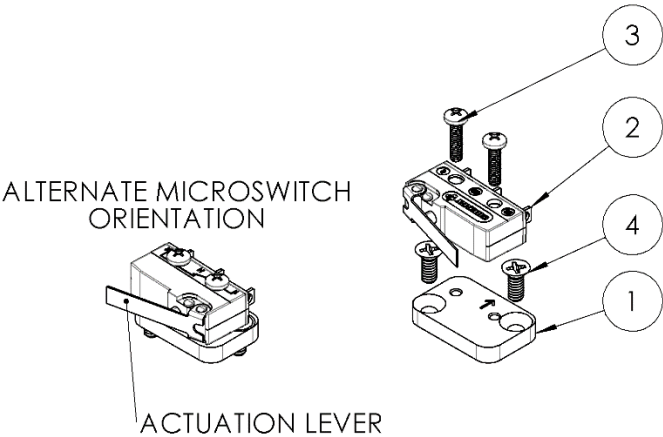
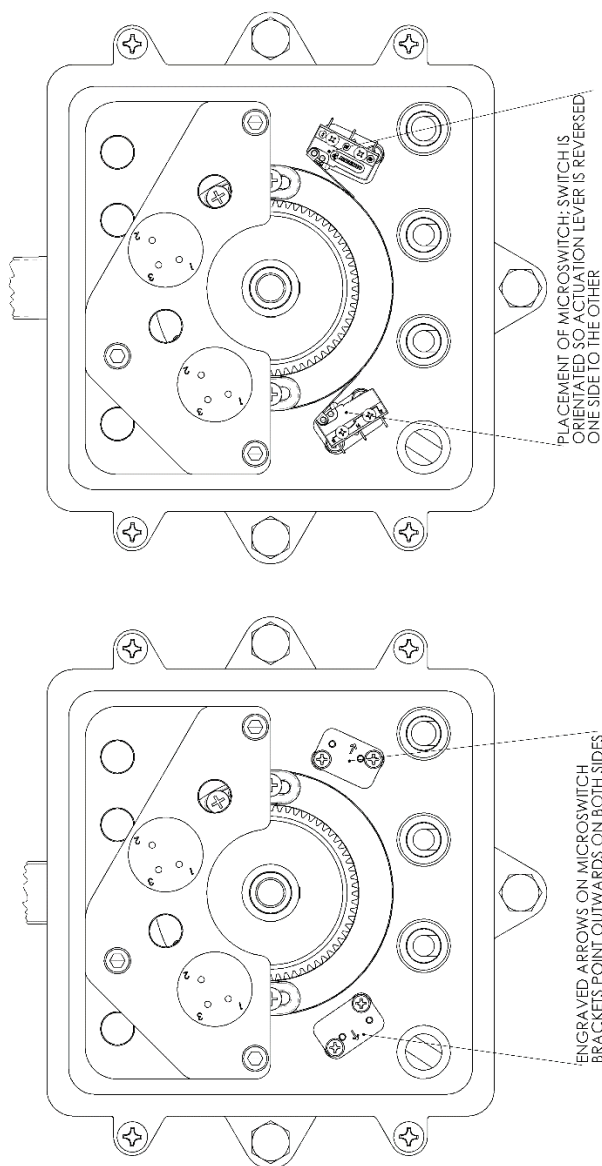
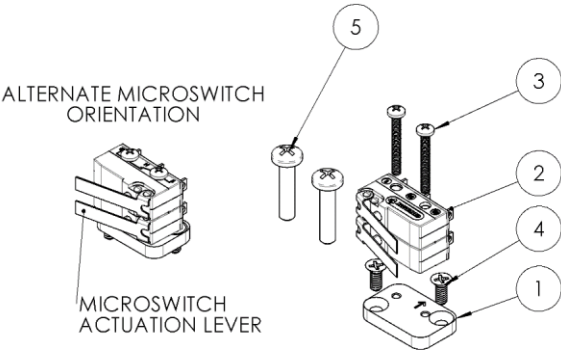
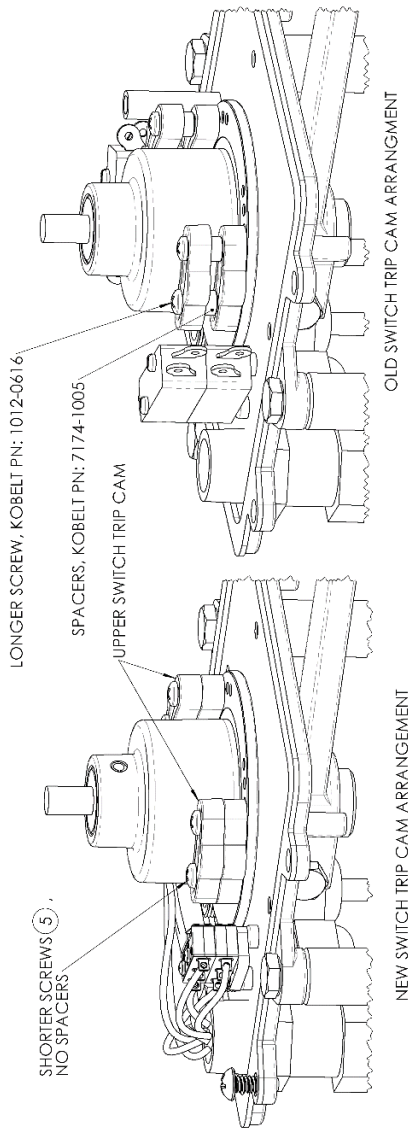

Figure 3: Microswitch retrofit kit, 7174-RF-01
Figure 5: Placement of microswitch and microswitch bracket, 7174-B shown.
Figure 7: Microswitch retrofit kit, 7174-RF-02
Figure 9: Arrangement of switch trip cams old microswitch and new microswitch
Before removing old microswitches, please ensure you have one retrofit kit for each side that has a microswitch being replaced. Review Figure 3 and Table 5 and compare to your retrofit kits to ensure the correct quantities of components are present.
4. Refer to Figure 5 and note the engraved arrow on the microswitch bracket ① is facing outwards on both sides of RFU.
5. Apply Loctite 242(Blue) to X2 Flat head screws ④.
6. Install bracket ① with screws ④ into the RFU cover plate, 7174-0002, ensuring the engraved arrow is correctly orientated.
7. Refer to Figure 5 and note the orientation of the microswitch ② for the side of the RFU that the microswitch is being replaced on.
8. Place the microswitch ② on top of the bracket ① orientating the microswitch so the actuation lever is as shown in Figure 5. For reference, the actuation lever is pointed to in Figure 3.
9. Apply Loctite 242(Blue) to X2 pan head screws ③.
10. Use X2 screws ③ and tighten to secure the microswitch ②.
NOTICE	Before removing old microswitches, please ensure you have one retrofit kit for each side that has a microswitch being replaced. Review Figure 7 and Table 6 and compare to your retrofit kits to ensure the correct quantities of components are present.
8. Place the microswitches ② on top of the bracket ① orientating the microswitches so the actuation lever is as shown in Figure 5. For reference, the actuation lever is pointed to in Figure 7.
10. Use X2 screws ③ and tighten to secure the microswitches ②.
11. Review the old versus new arrangement of the switch trip cams shown in Figure 9.
14. Apply Loctite 242(Blue) to the shorter screws ⑤ included in the retrofit kit.
15. Replace the upper switch trip cam and secure with the shorter screws ⑤, leaving out the spacer.